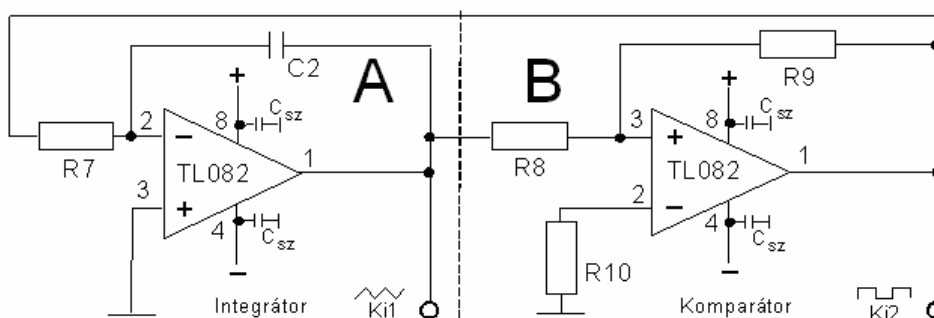

Figure 1-3. Waveform generator
- 4.1. Build the circuit depicted in fig. 1-3! The parameter values should be determined by the tutor! (The integrator should be built by student A, the Schmitt-trigger (comparator) by student B)